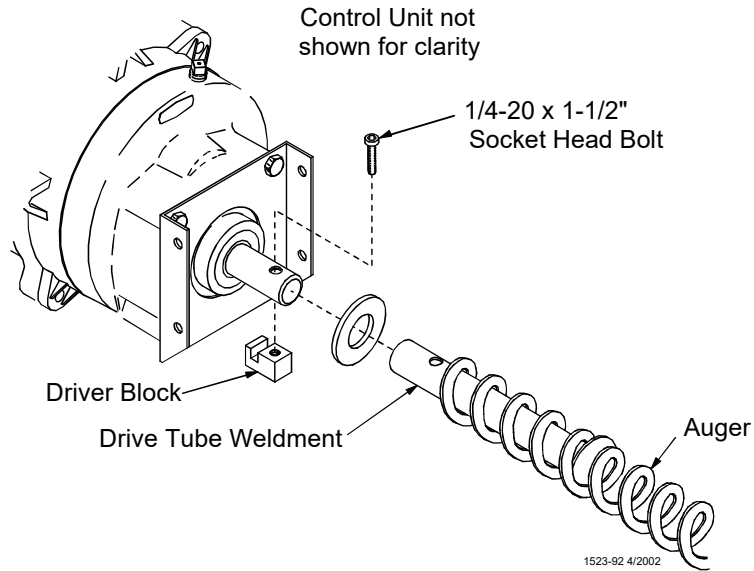

Figure 35. Auger Driver Components
4. Slide the Drive Tube and flat washer over the output shaft on the Power Unit, as shown in **Figure 35**.
6. Turn the Drive Tube Weldment into the auger, then attach to the output shaft of the Power Unit, as shown in **Figure 35**. Use the Driver Block to secure the auger to the Output Shaft